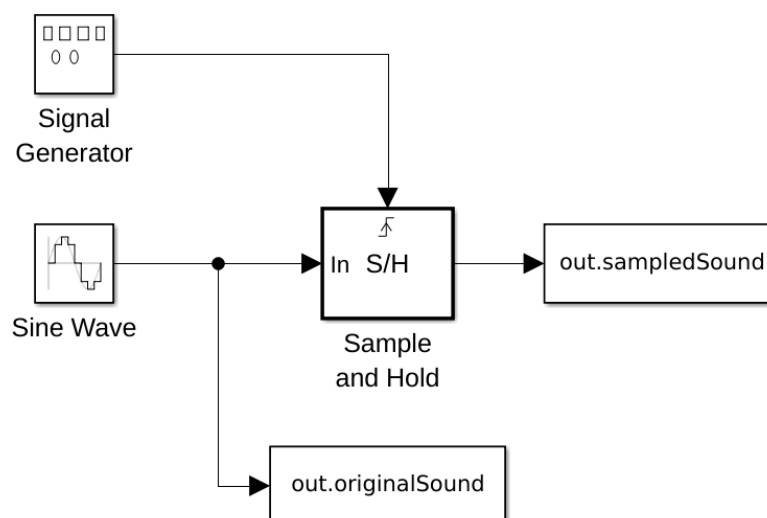

Figure 1: Simulink Diagram for Aliasing
- (g) Connect your blocks as in Figure 1.